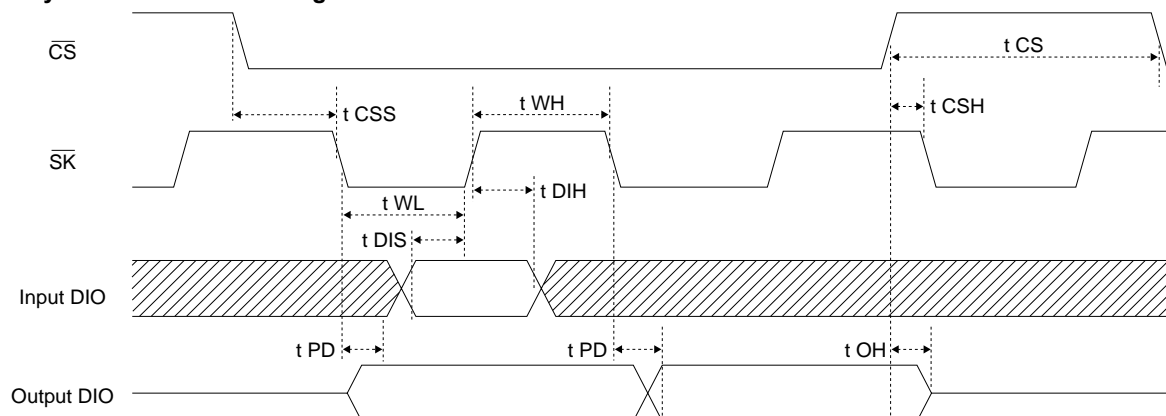

Fig.10 Synchronous data I/O timing
- 1) When the Wiper Counter Data Output (WCR) command is received, seven bits of the data at the current wiper position are output to D8, D9, D10, ..., D14, in sequential order. If a clock of longer than 24 clocks is input, indefinite data may be output. (For the DIO output, the data may change at the tPD0 and tPD1 time delays, in response to the internal circuit delay starting from the falling edge of the  $\overline{SK}$  signal. During the tPD0 and tPD1 time intervals, data should be loaded after the tPD time has been assured, in case the previous data is indefinite. Refer to Fig.10, Synchronous data I/O timing.)